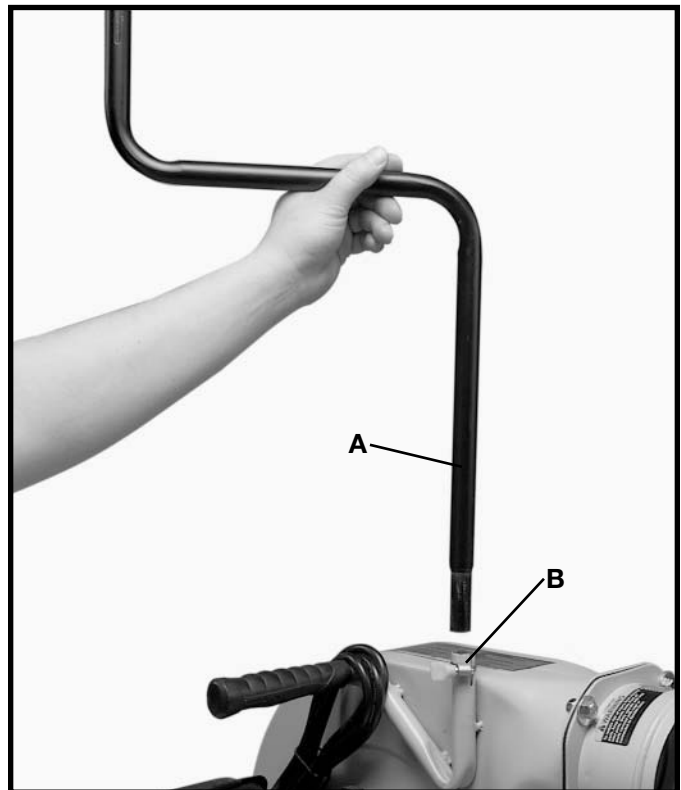

Fig. 8
2. Insert the lower tube support (A) into the tube support holder (B) as shown in Fig. 8.